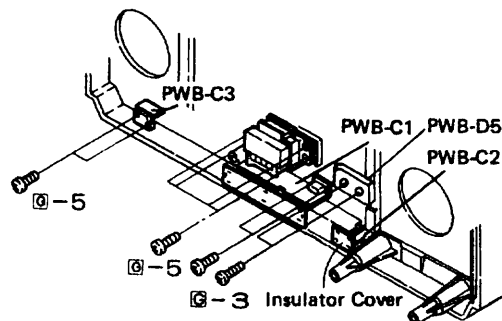
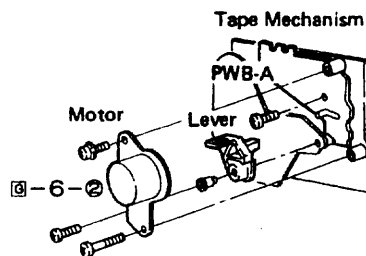
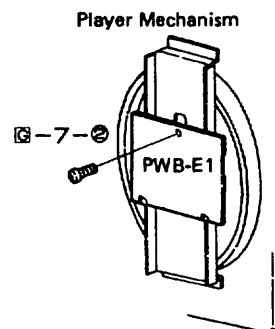

Figure 6-2
Figure 6-3
Figure 6-4
- ① Remove two screws at the speaker P.W.B. shown in Fig. 6-2, and take the P.W.B. off.
- ① Remove eight screws at the power block and a insulator cover — shown in Fig. 6-2, and take the power block off.
- ① Remove the tape mechanism in the same way as in "F REMOVAL OF TAPE MECHANISM."
- ② Remove a screw at the record/playback changeover lever, two screws at the motor bracket and a screw at the tape mechanism P.W.B. — shown in Fig. 6-3, and take the P.W.B. off.
- ① Remove the player mechanism in the same way as in "D REMOVAL OF PLAYER MECHANISM."
- ② Remove a screw at the microcomputer P.W.B. shown in Fig. 6-4, and take the P.W.B. off.